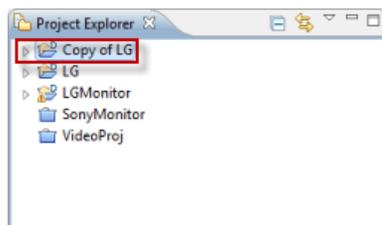

FIG. 20 Project Explorer indicating a copied Project
4. Click **OK** to paste a copy of the selected Project to the Project Explorer (FIG. 20):